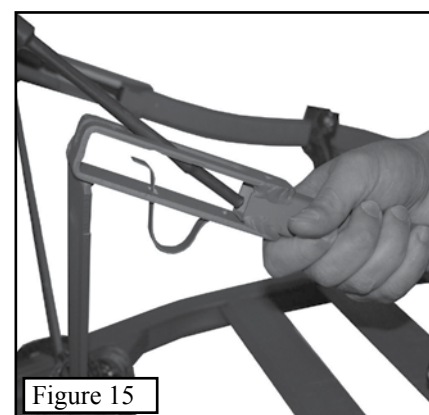

Figure 15
Step 2. Take one end of the cable around the tree and begin to slide it down into the tubing as shown in **Figure 15**. Once the cable slides easily into the tubing (it helps to bend the cable upward while pushing down on it), you are ready to place it in its final position.